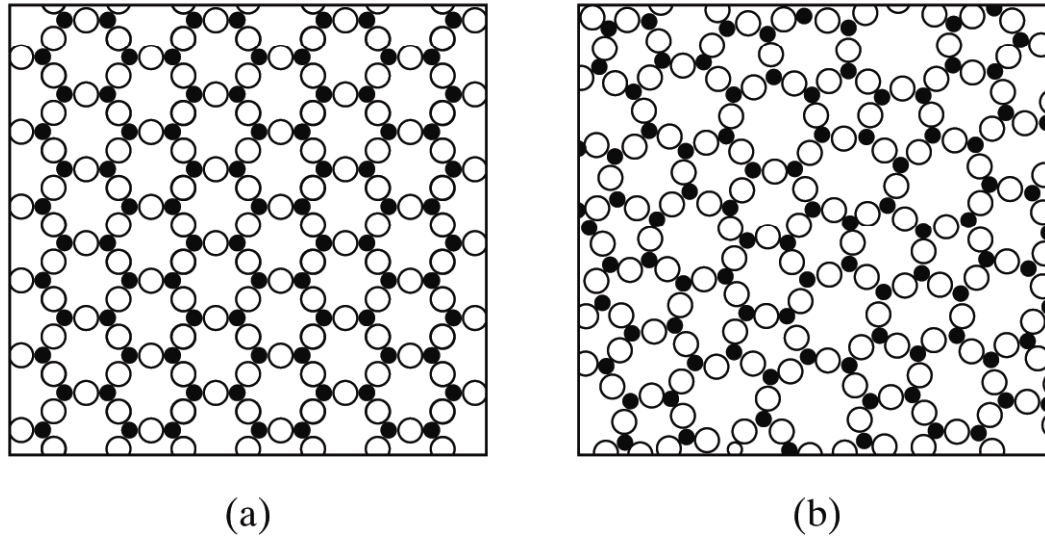
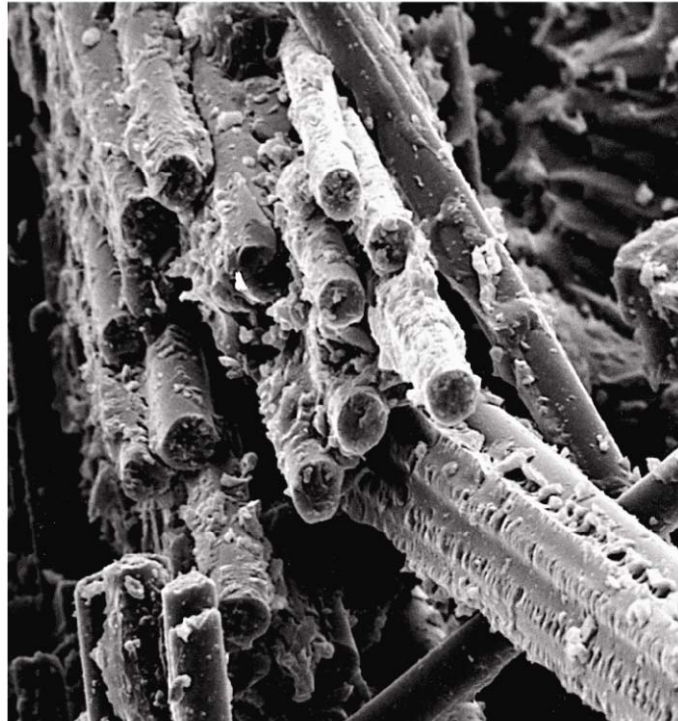

Figure 1.8
Figure 1.14
- Fig. 1.8 illustrates the nature of an atomic-scale architecture for crystalline (regular, repeating) and noncrystalline (irregular, random) arrangements of atoms.
- Fig. 1.14 illustrates the nature of a microscopic-scale architecture, in which the reinforcing glass fibers of a high-strength composite are contrasted against the surrounding matrix of polymer.
- The difference in scale between “atomic” and “microscopic” levels should be appreciated. The structure in Fig. 1.14 represents a magnification of $\sim 1,000$ times, whereas the structure shown in Fig. 1.8 represents a magnification of $\sim 10,000,000$ times.